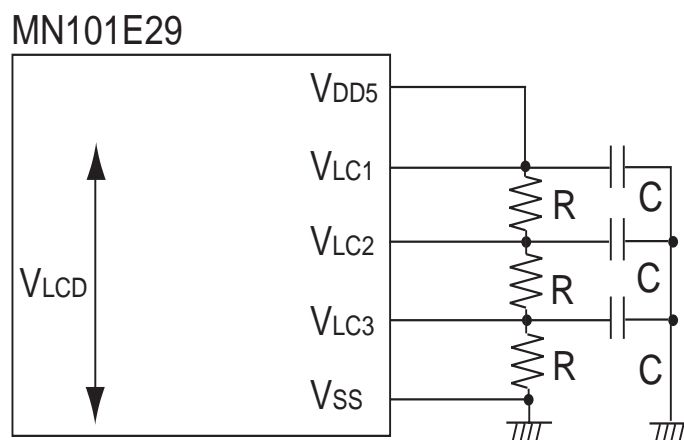

Figure:15.3.1 LCD Power Supply Connection (When using External Voltage Divider Resistors)
Figure:15.3.1 shows example of the LCD power supply connection.
1. In Figure:15.3.1, current always flows through the voltage divider resistors. The following connection is used to cut the current flowing through these dividing resistors. (at $V_{LC1} = V_{DD5}$)